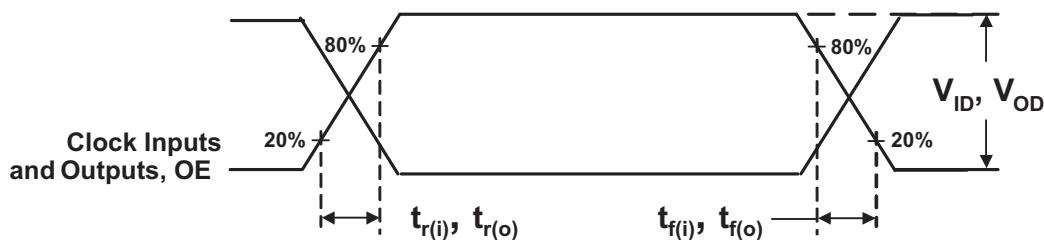

Figure 9. Input and Output Slew Rates
- (1) The PLL is turned off and bypassed for test purposes when AVDD is grounded. During this test mode, VDDQ remains within the recommended operating conditions and no timing parameters are specified.
- (2) VID is the magnitude of the difference between the input level on CK and the input level on  $\overline{\text{CK}}$ , see Figure 9 for definition. The CK and  $\overline{\text{CK}}$ , VIH and VIL limits define the dc low and high levels for the logic detect state.
(1)  $V_{OD}$  is the magnitude of the difference between the true and complimentary outputs. See Figure 9 for a definition.(2) Total  $I_{DD} = I_{DDQ} + I_{ADD} = f_{CK} \times C_{PD} \times V_{DDQ}$ , solving for  $C_{PD} = (I_{DDQ} + I_{ADD}) / (f_{CK} \times V_{DDQ})$  where  $f_{CK}$  is the input frequency,  $V_{DDQ}$  is the power supply, and  $C_{PD}$  is the power dissipation capacitance.